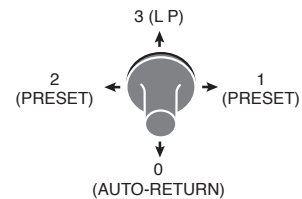

Fig. 6-2 Stick switch (Auto-mode)
- (2) Move the stick switch (0 or 1 or 2 or 3) for that position until the beeper sounds (about 5 seconds) to complete the procedure.(Fig.6-2)